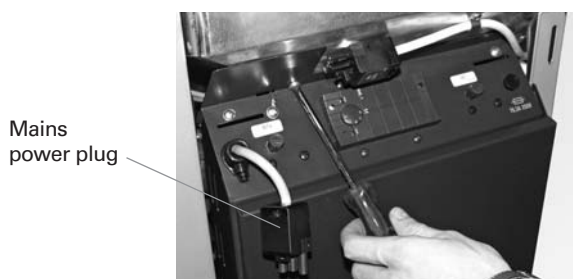

Fig. 95 Removing the power plug and screw
- Unhook the right side panel cladding and disconnect the mains power plug over the control panel – Fig. 95
- Remove the screw under the mains power plug on the control panel (Fig. 95) and swivel open the control panel.